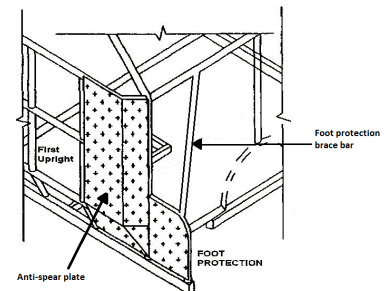

Figure 4d (Side view) – Typical roll cage. Anti spear plate and foot protection brace.
- 26.19. Anti - Spear Door and Ankle plates to be fitted using minimum 3mm plate. (See figure 4d)
- 26.20. A mandatory foot protection brace bar of a minimum 25mm x 3mm CHS fitted between the front top half of the foot protection bar and bar work to the left on the driver`s side (preferably the dash bar) and between the front top half of the foot protection bar and dash bar at approximately 45 degrees on the passenger side if passenger seat fitted. (See Figure 4d)